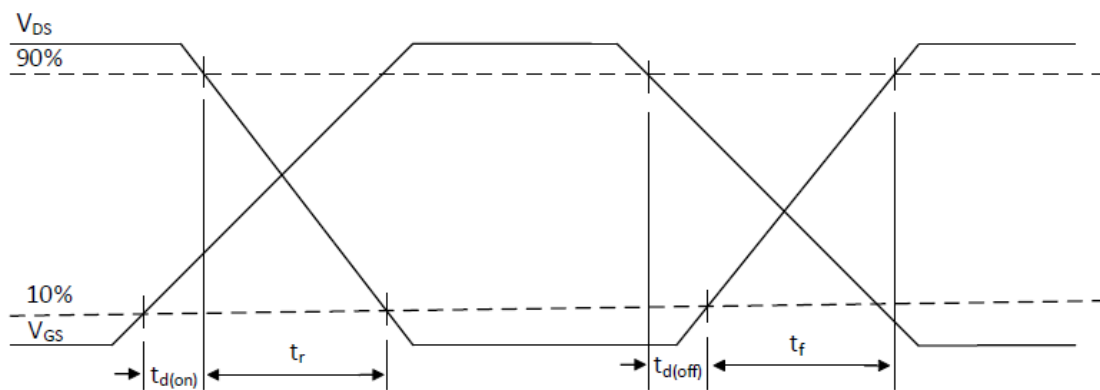

Figure 17: Switching Time Waveforms
(8) See Figure 17 for switching time definition waveforms.
(9) L_P = parasitic inductance.